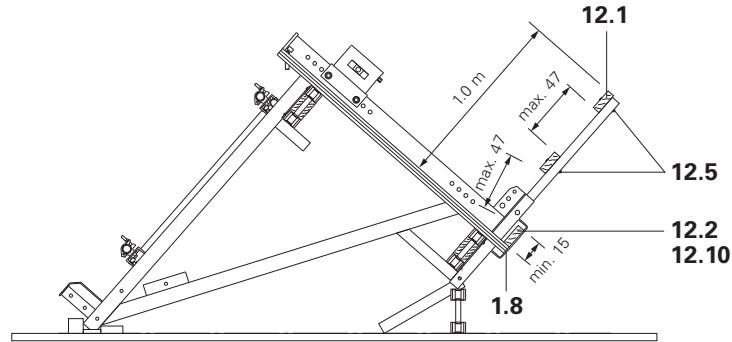
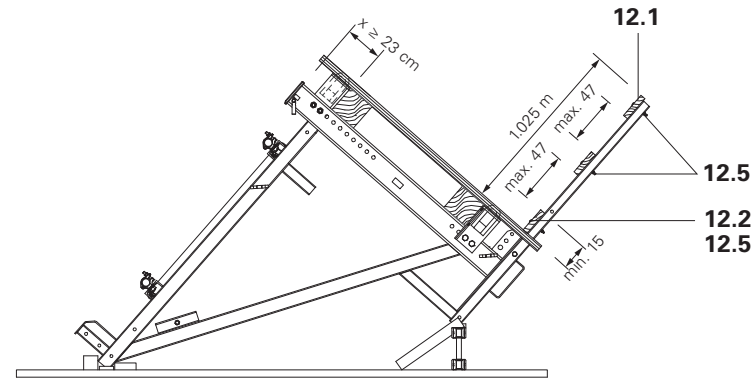

Fig. A1.19a
Fig. A1.19b
2. Attach handrail boards to guardrail post with screw clamps. Height: depends on decking design. (Fig. A1.19a + A1.19b)
4. Depending on the design of the decking, fix Toe Board (12.2) to the guardrail posts by means of F. H. Bolts M8 x 100 (12.5) (Fig. A1.19b) or fix to the support bracket with Torx 6 x 40 (12.10). (Fig. A1.19a)